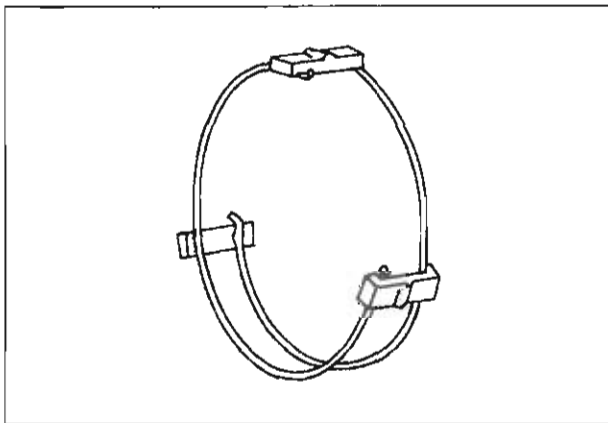

Fig. 7A-12 Installing of key springs
1. Assemble the third-and-top synchronizer mechanism by installing the clutch hub onto the sleeve, placing the three synchronizer keys into the clutch hub key slots and installing the key springs onto the clutch hub. When installing the key springs, the open ends of the springs should be **kept 120° apart** as shown in Fig. 7A-12, so that the spring tension on each key will be uniform